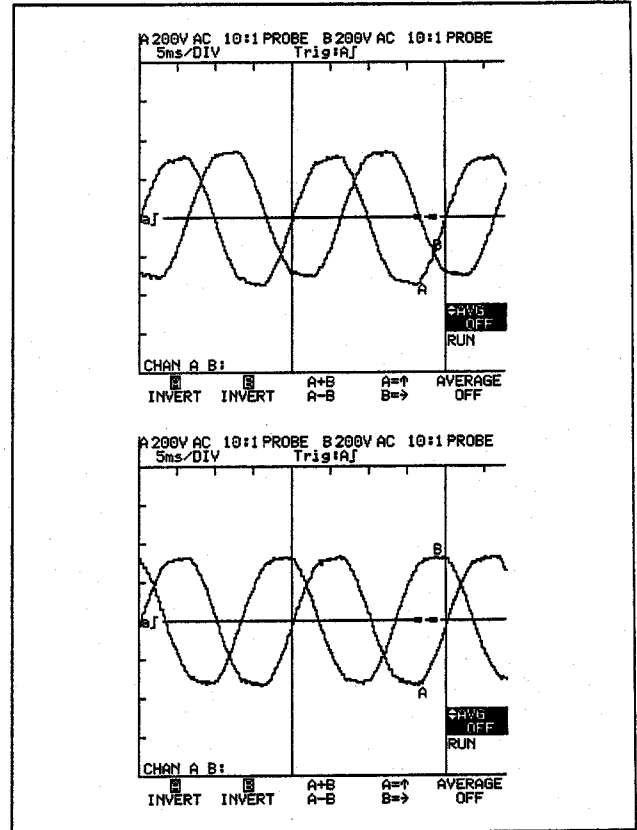

Figure 5.9 Rotation measurements
③ **SCOPE**
④ **AUTO SET**
⑤ **mV** Channel A and Channel B as necessary
⑥ Turn circuit breaker on.
⑦ Measure connection 1 and connection 2 (see Figure 5.9).
The upper waveform is Figure 5.9 shows that line 2 (channel B) follows line 1 (channel A). The lower waveform shows line 3 follows line 1.